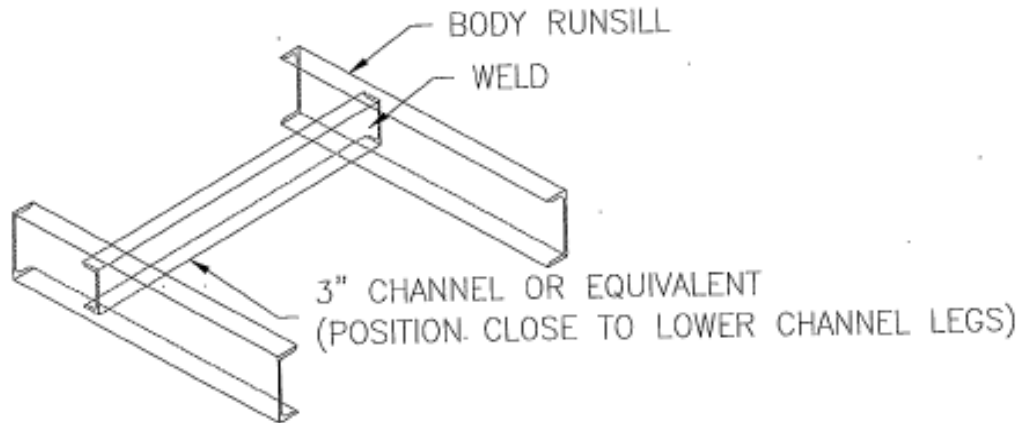

Figure 17
C. Lateral: A 3" channel cross brace is included for additional reinforcement between runsills. On a standard mount, position brace far enough ahead of upper mount to clear lower mount when body is in down position. On a reverse mount, position brace behind upper mount (toward rear of body). In either instance, position brace in vertical position, perpendicular to runsills and as close to lower leg of each runsill as possible. (see figure 17)